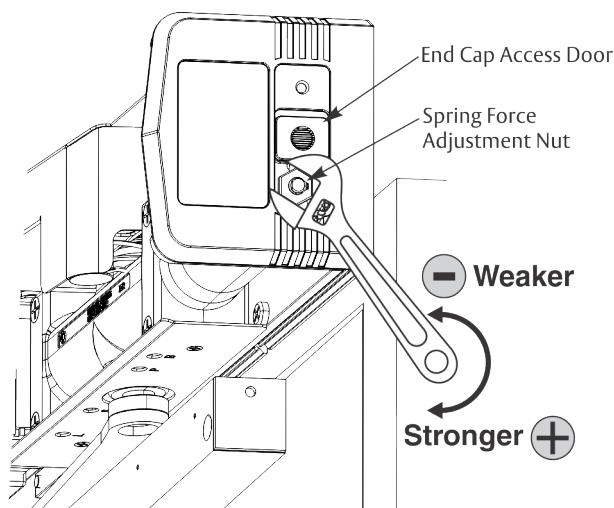

Figure 25
1. Using 11/16" wrench, turn nut in end of closer body tube to desired force. (Figure 25)
NOTE: If spring adjustment nut is too close to end cap and wrench will not reach nut, remove Torx screw in end cap access door and slide door open. When finished, slide access door closed and reinsert #6 Torx flat head screw to secure door. (Figure 25)